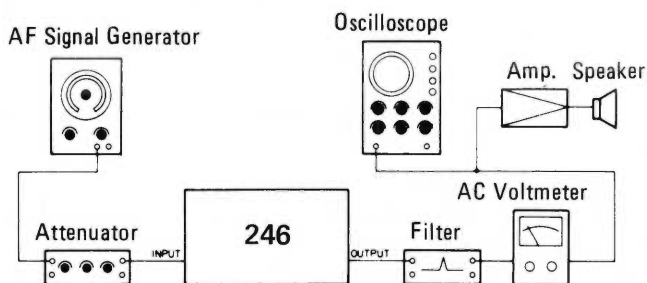

Fig. 4-6-6
- 1) Connect test equipments as shown in Fig. 4-6-6 and adjust the controls and switches as mentioned under the step 1 in item 4-6-6, Record Level.